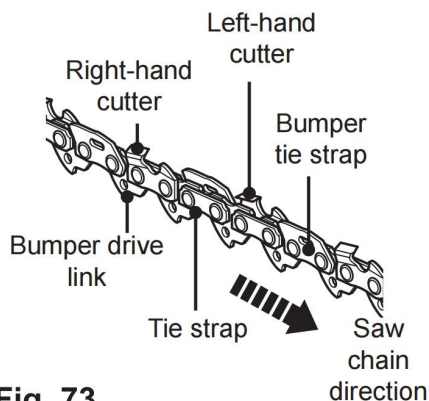

Fig. 73
2. The height difference between the tooth and the ridge is the cutting depth. When sharpening the saw chain (C12) you have to consider the following points (Fig. 73).